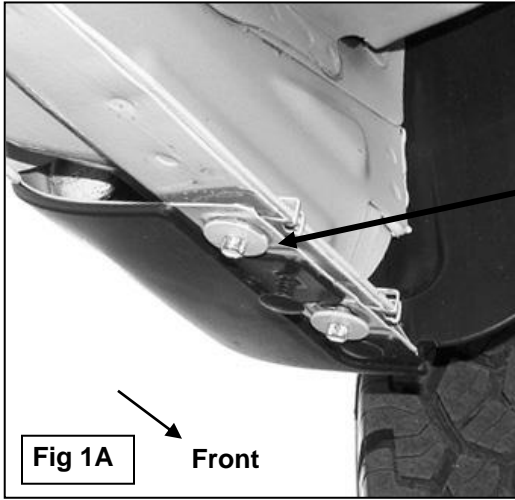

Fig 1A Front
- Starting at the front of the driver side of the vehicle, remove the two small hex bolts and the metal clips holding the bottom of the fender to the body, (**Figure 1A**). **NOTE:** Use a small flat screwdriver to spread the clip apart for easy removal. Due to body panel misalignment from the factory, it may be necessary to open these holes slightly with a 3/8" drill bit, (**Figure 1B**).
- Select the driver side front Mounting Bracket. Line up the (2) holes in the pinch weld with the holes in the front Mounting Bracket. Insert (2) 8mm x 30mm Hex Bolts with (2) 8mm x 24mm